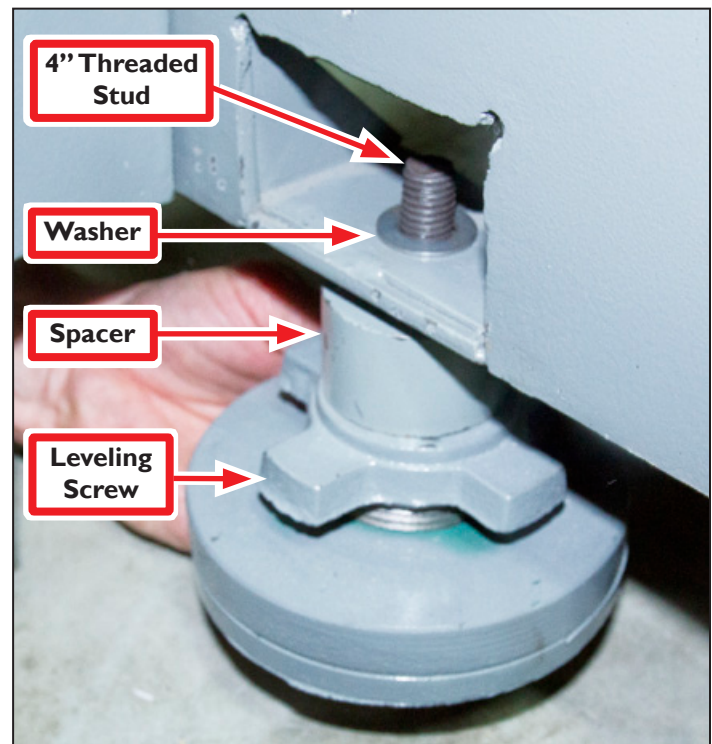

Figure 2.5
6. Insert each lathe foot assembly into base of lathe via a lag bolt hole (see **Figure 2.5**). Slip a Washer onto each Threaded Stud and secure feet tightly with nuts.